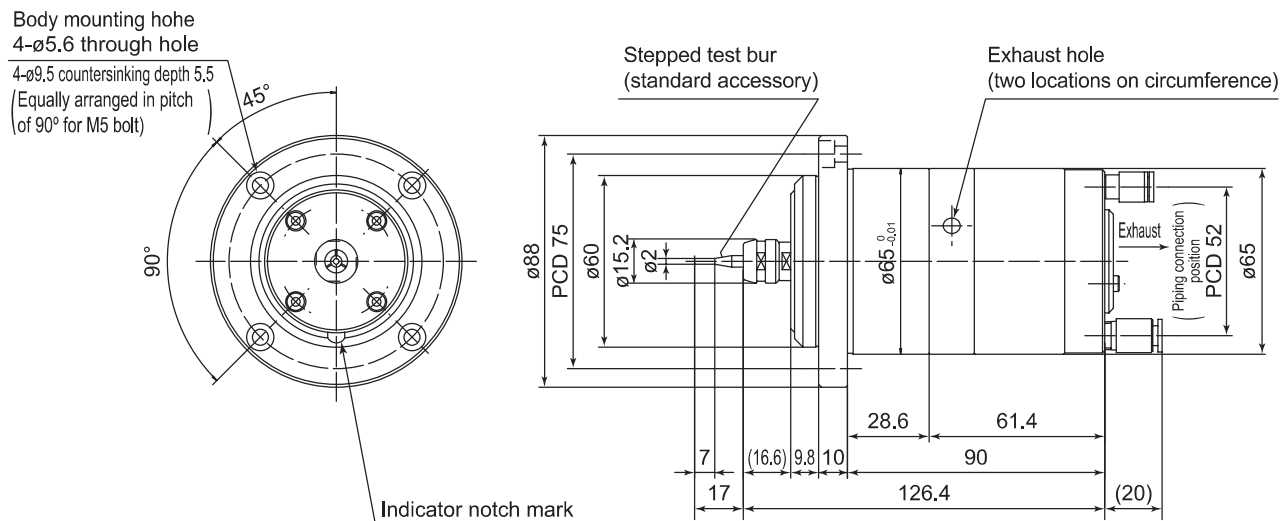
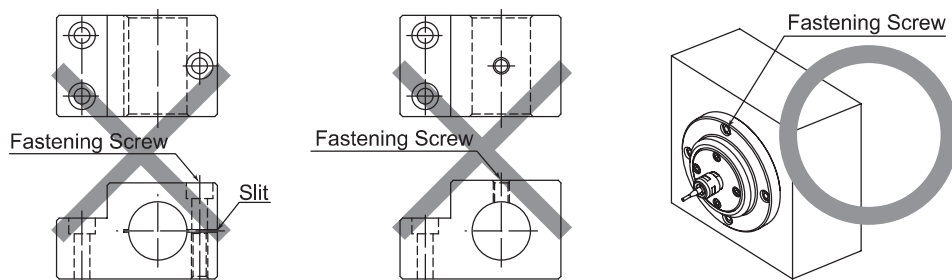

Fig. 2 Appearance dimensions detailed drawing
Fig. 3
- ① Remove the protect cover of the Xspeed1200.
- ② Insert the spindle housing diameter $\varnothing 65$ section into a holder (prepared by customer).
- ③ Secure the spindle to the countersunk holes (4 locations) on the flange using M5 bolts as shown in Fig.2 and Fig.3.
- ① Secure the main body so as not to block the exhaust holes (2 locations on the circumference) on the back of the spindle. Install the main body laterally so that the exhaust hole faces downward.
- ② If the spindle housing diameter $\varnothing 65$ section is tightened and fixed using bolts and a split sleeve, split holder arrangement, the main body will be geometrically deformed and assembly accuracy will be affected. Troubles such as rotation failure and heat generation may result. Absolutely never fix it with bolt and split type holders. (Refer to Fig.3).
- ③ Since the spindle housing section has been assembled by stacking some components with high precision, spindle damage can occur if the spindle receives shock by bumping while inserting it in the holder. Therefore, very carefully perform installation work.